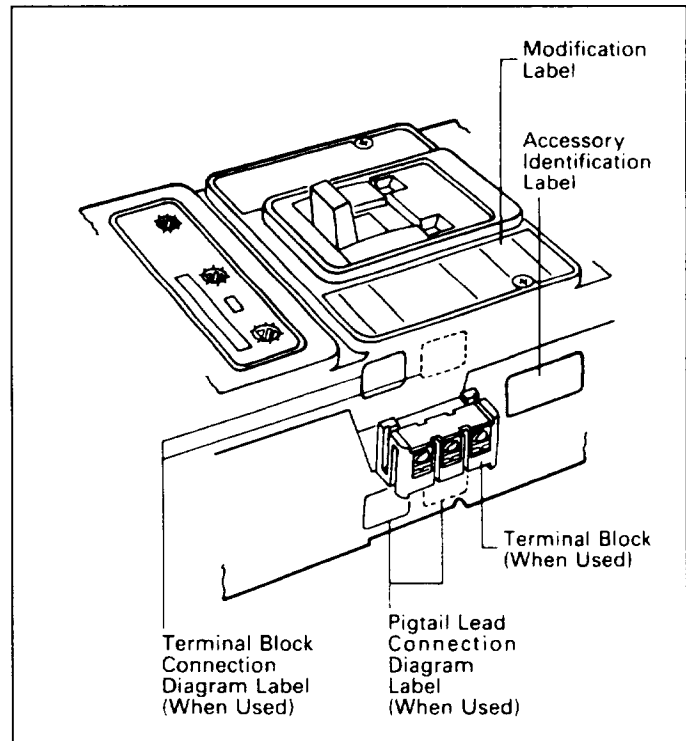

Fig. 2-5. Preferred Mounting Locations for Accessory Nameplate Labels
- 2-8. Place accessory labels (supplied with kit) on circuit breaker. (See Fig. 2-5.)